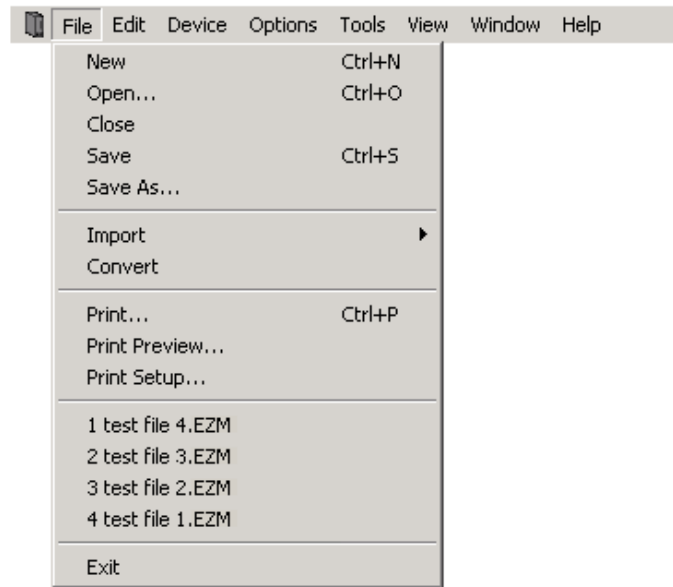

Figure 10: File Menu
- Press ALT and press the underlined letter in the menu name. Then press the underlined letter in the option name. For example, to open a new configuration file, press ALT and press F to open the File menu. Then press N for New, see Figure 10.
The **File** menu on the menu bar contains many different options for file handling (i.e., saving files, importing files, etc.). Figure 10 below shows the **File** menu expanded.